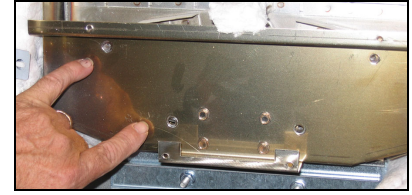

Figure 13
11. Remove the four nuts and cover of the lower insulation retaining cover (see Figure 13).